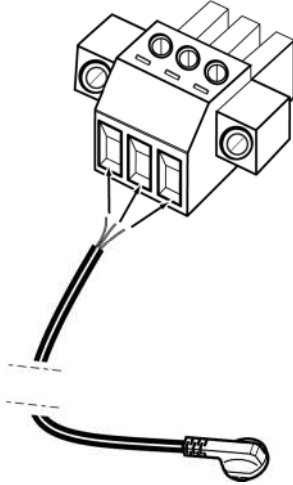

Figure 24 Schematic Diagram of the DCS Main Power Supply Cable Connection
1. Strip off the wire jacket of one end of the AC power supply cable by 20mm and connect the cable to the main power supply wiring terminal, as shown in Figure 24.
1. Strip off the wire jacket of one end of the prepared standby power supply cable by 20mm and connect the cable to the standby power supply wiring terminal, as shown in Figure 24. The installation procedure is similar to that of installing the main power supply cable.